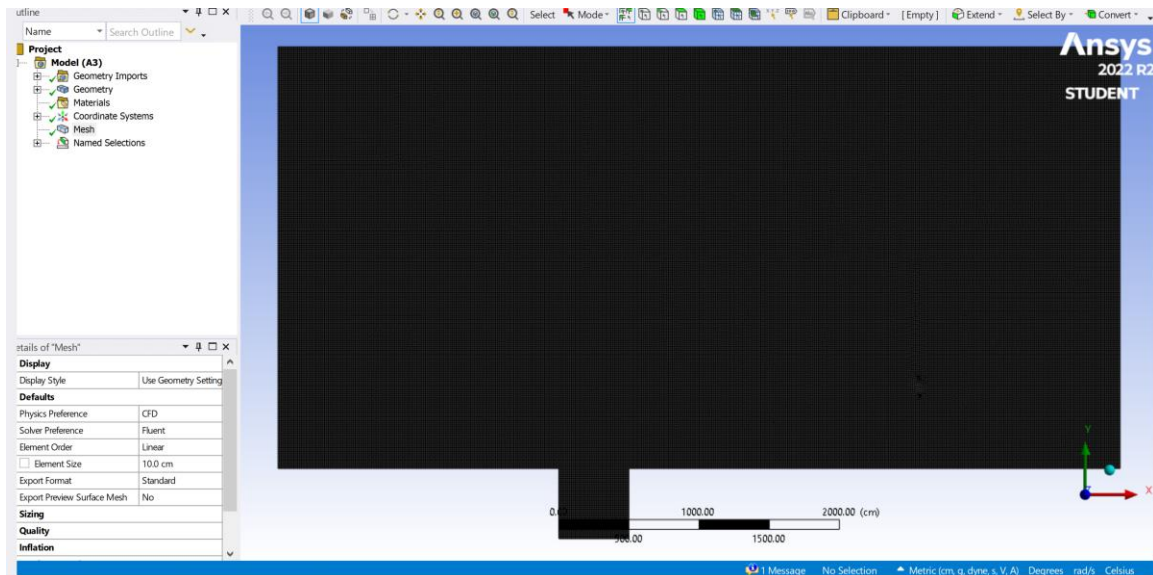

Figure 2: Mesh of Computation Domain (Task 1).
- In this task, we simulate the process of a falling water droplet colliding with a flat surface of liquid diesel, in a pure 2-D setting. The geometry of the system is a simple 25 cm x 25 cm square bucket that is open (to air) at the top and with the other three sides being walls, as shown in Fig. 2. At $t = 0$, the bucket is partially filled with liquid diesel (“diesel-liquid” in Fluent database) to the depth of 8 cm, and the rest filled with air. (See Fig. 2.) In addition, a circular droplet with radius of 1.5 cm (diameter of 3 cm) is placed in the middle of the bucket, with its center placed 20 cm above the floor. More precisely, if the coordinate of the lower-left corner of the bucket is $(x, y) = (0,0)$, the center of the droplet is $(x, y) = (12.5 \text{ cm}, 20 \text{ cm})$. For the transient simulation, set gravity to the regular $g = -9.81 \text{ m/s}^2$ in the y-direction as indicated in Fig. 2. Initialize the system with zero gauge pressure and zero velocity. Use Laminar model and turn on surface tension modeling. For